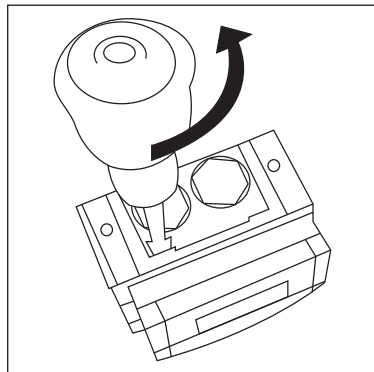

Fig 3 Cover removal
6. To remove the cover, undo and remove the four cover fixing screws. The four retaining clips also need to be released. To do this place a large flat bladed screwdriver into the slot between the cover and backbox and gently twist until the clip disengages (Fig 3). Repeat this for the three remaining clips and pull the cover away from the backbox.